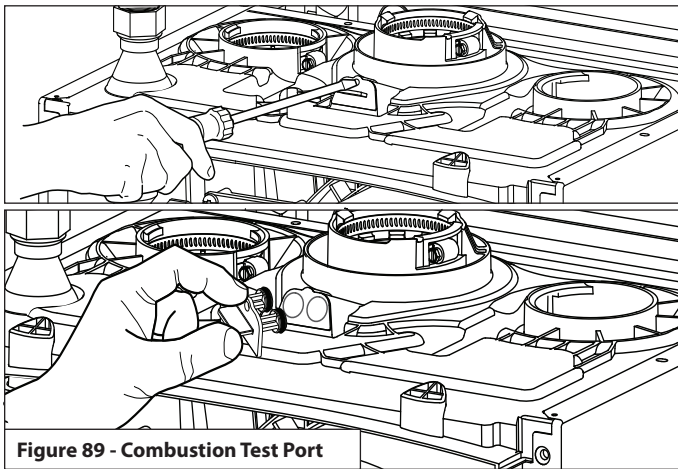

Figure 89 - Combustion Test Port
5. Reinstall the combustion test port - see Figure 89.